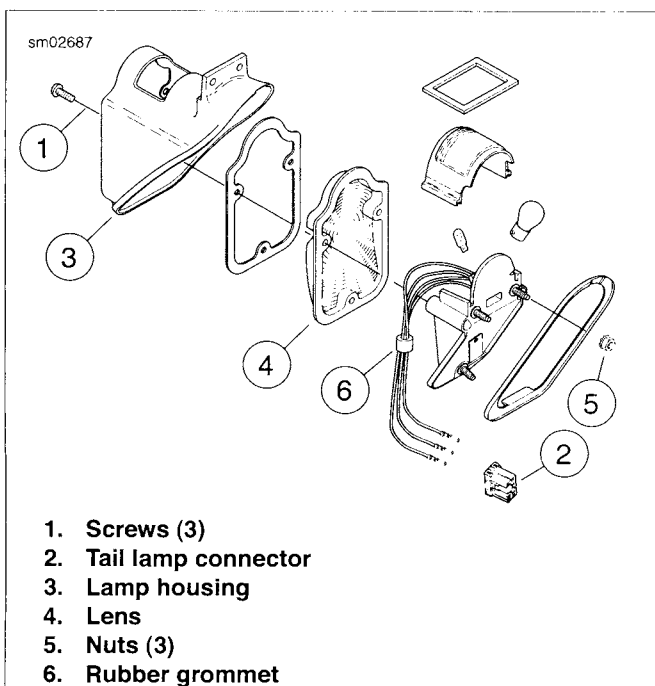

Figure 7-34. Tail Lamp Assembly
See Figure 7-34. To change a bulb, remove the lens (4), turn the bulb 1/4 turn counterclockwise while pressing the bulb into the lamp housing (3), and remove the bulb. Replace the bulb and install the lens.